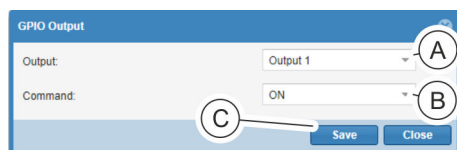

Fig. 118: “GPIO Output” window
- ⇒ The “GPIO Output” window opens (Fig. 118).
2. ➤ In the “Output” option menu (Fig. 118/Ⓐ), select the desired output.
3. ➤ In the “Command” option menu (Fig. 118/Ⓑ), select the setting “ON” or “OFF”.
4. ➔ Adopt the settings by pressing the “Save” button (Fig. 118/©).